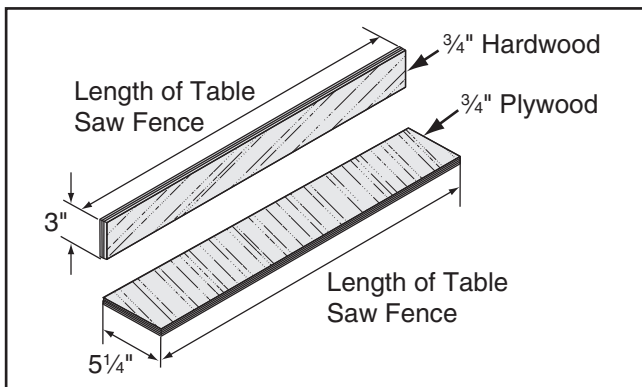

Figure 79. Auxiliary fence dimensions.
1. Cut a piece of $\frac{3}{4}$ " thick plywood $5\frac{1}{4}$ " wide and as long as your table saw fence; cut a piece of $\frac{3}{4}$ " thick hardwood 3" wide and as long as your table saw fence, as shown in **Figure 79**.